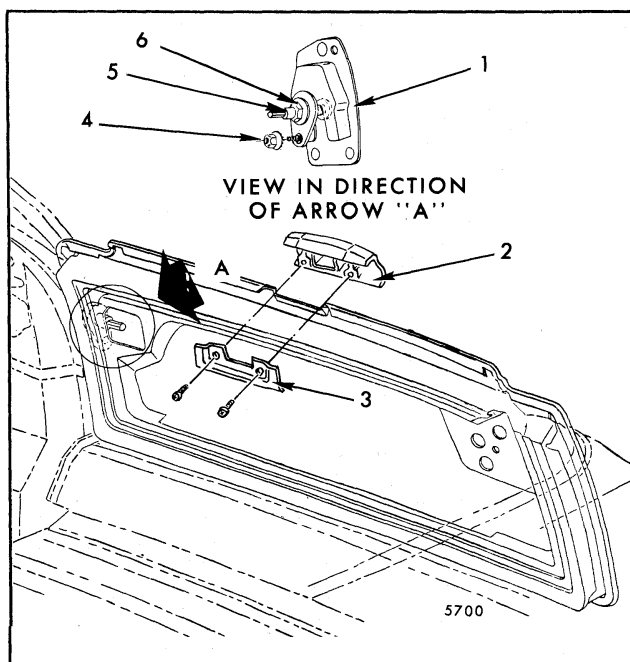

Fig. 7-142-Tailgate Lock Striker and Grip Handle Assemblies
The tailgate striker assembly mounted on the right side of the gate provides fore-aft, up-down and cross-body adjustments. The assembly is designed to pivot from the lower attaching point so that fore-aft adjustment can be made without disturbing the height setting. Cross-body adjustment is made by loosening the striker pin jamb nut and turning the striker pin in the desired direction (Fig. 7-142).
4. Through access hole in tailgate inner panel, remove striker assembly nut and striker pin jamb nut and washer (Fig. 7-142).
1. Engage hex end of striker with a suitable wrench and loosen striker pin jamb nut (Fig. 7-142).
1. Remove screws securing tailgate outer panel grip handle and cover. Remove handle (Fig. 7-142).
1. With tailgate fully closed remove right side access hole cover panel for access to striker attaching provisions (Fig. 7-142).
- a. Gain access to striker assembly and loosen striker pin jamb nut and striker assembly nut (Fig. 7-142).